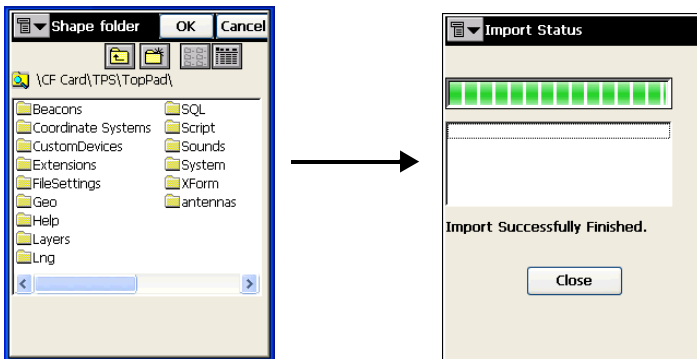

Figure 2-22. Save the Created Shapefile
- Navigate to the location in which to save the created shapefile and press **OK**. Press **Close** when the import completes (Figure 2-22).